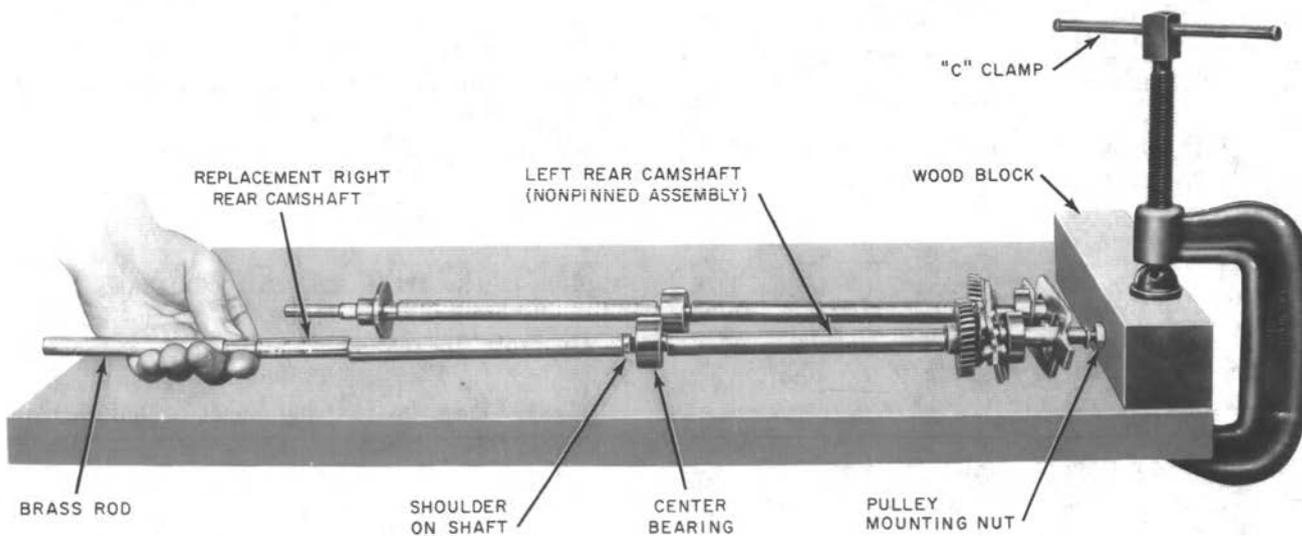

Fig. 56—Engaging Right Rear Camshaft (Earlier Arrangement)
- (45) Place the end of the camshaft which mates with the camshaft being replaced against the wood block as shown in Fig. 56 (old yoke assembly coupled camshaft or individual camshaft).
- (44) Clamp one wood block to a flat surface using the R-1445 C clamp as shown in Fig. 56.
- (46) If the right rear camshaft assembly on a previously nonpinned assembly is being replaced, partially replace the retaining nut on the thread portion of the left rear camshaft so that the camshaft is slightly overflush with the end of the shaft before placing against the block.